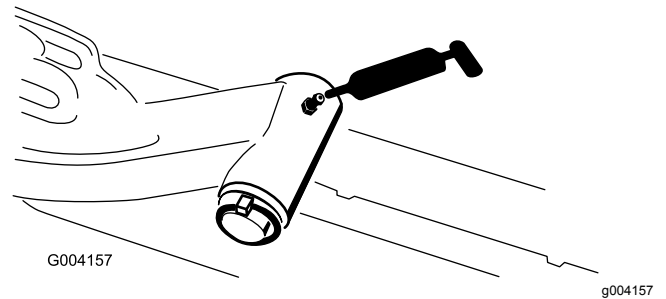

Figure 61
- Lift-arm pivot shaft (1 each)—Figure 61